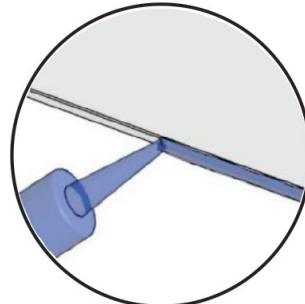

FIG 24.
- Remove shelf and put a thin bead of adhesive down both edges of shelf (FIG 24).